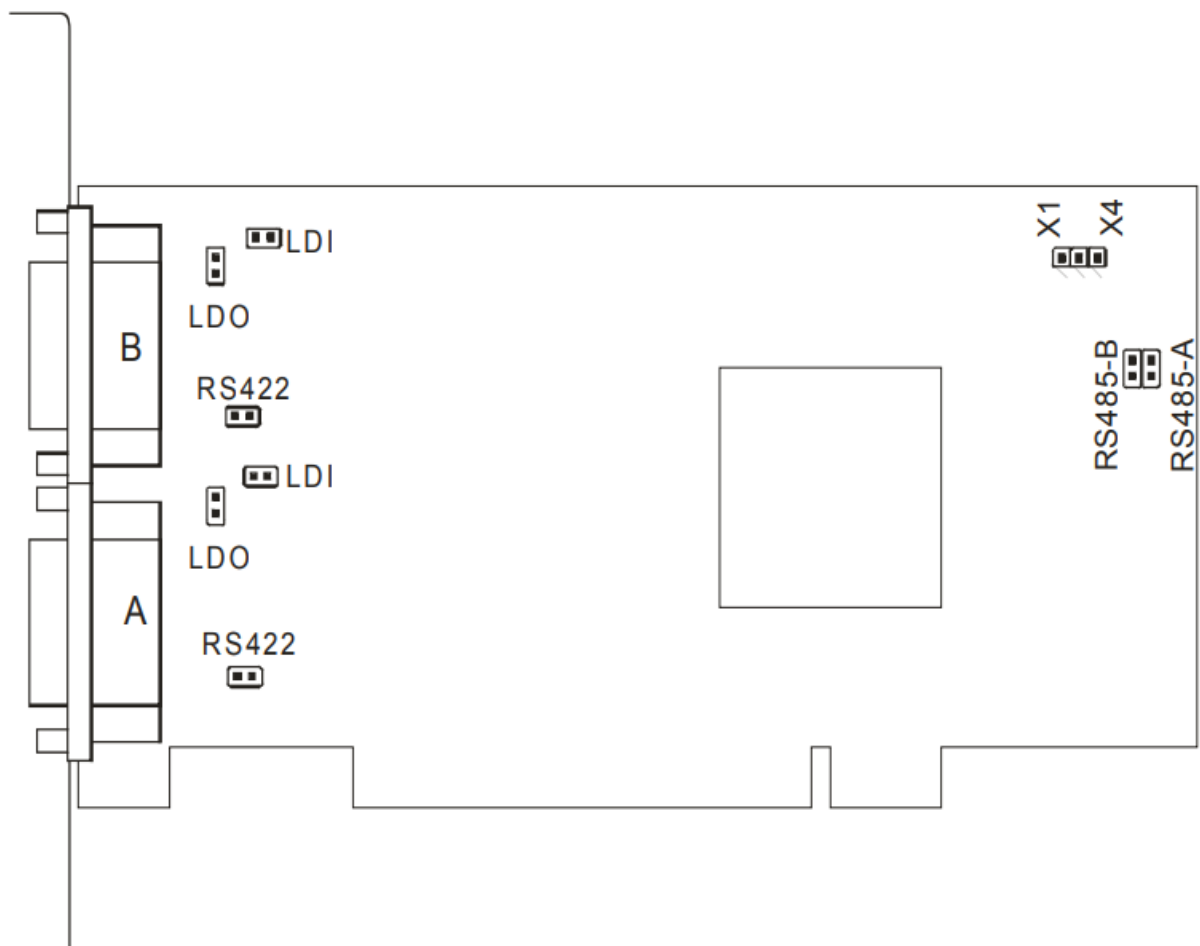

Figure 3-1: Option Selection Map
- The operation of the serial communications section is determined by jumper installation as described in the following paragraphs. Locations of the jumpers are shown in Figure 3-1, Option Selection at the end of this